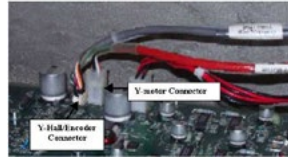

Figure 2 - Y-Motor Connections at PCB
3. Disconnect the Y-motor harness and y-hall/encoder harness from the Main PCB as shown in Figure 2 above.